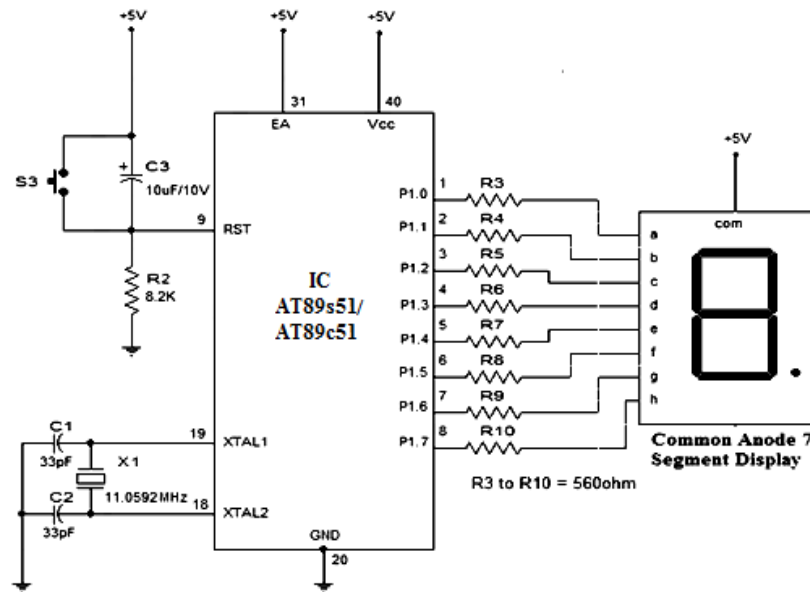

Figure 10.4: 89C51 connection to CA seven segment display
8. Interface 7- segment display to microcontroller as per circuit diagram shown in Figure. 10.4